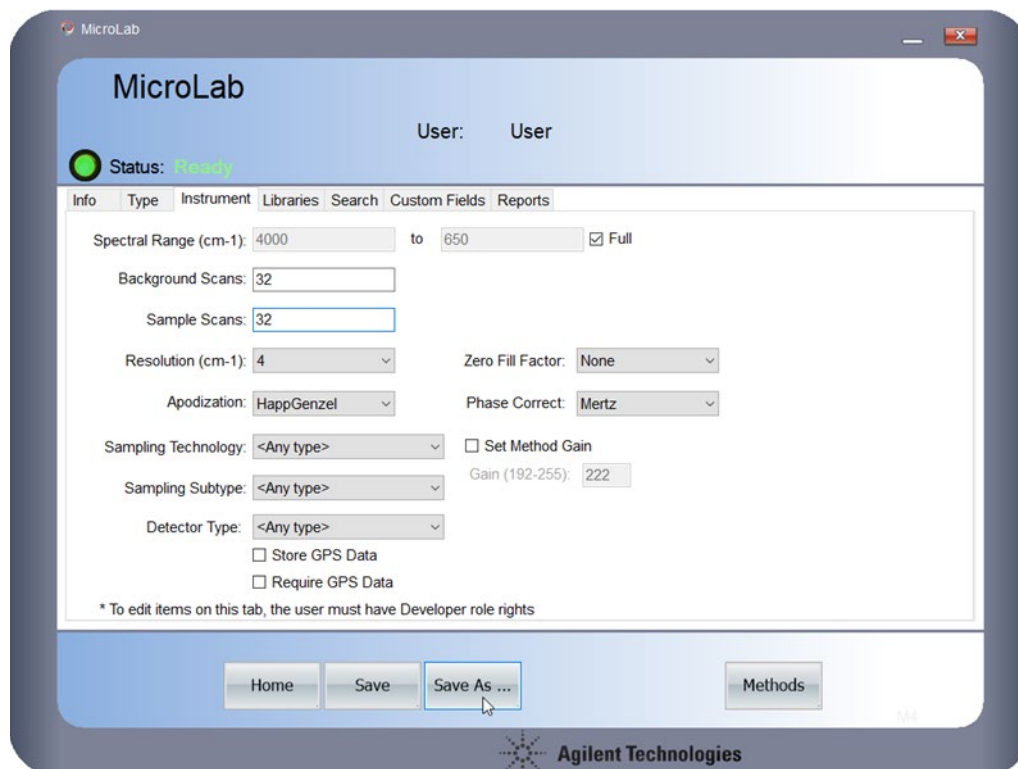

Figure 2. Instrument parameters
- Set the parameters as shown in Figure 2.